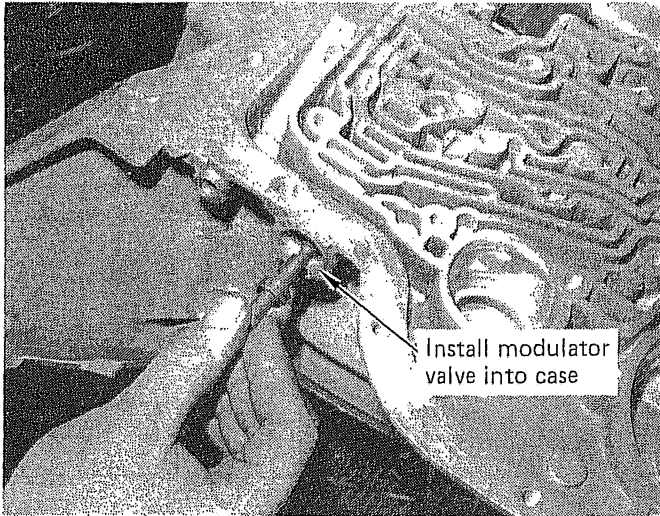

FIGURE 44
**STEP 4.** Install the modulator valve into the case. (See Fig. 44) The valve should move freely with no bind. If any sticking is encountered deburr the valve with a stone and work the valve in and out carefully until it frees up. Remove the valve and blow out the bore to remove dirt. Install the modulator valve.